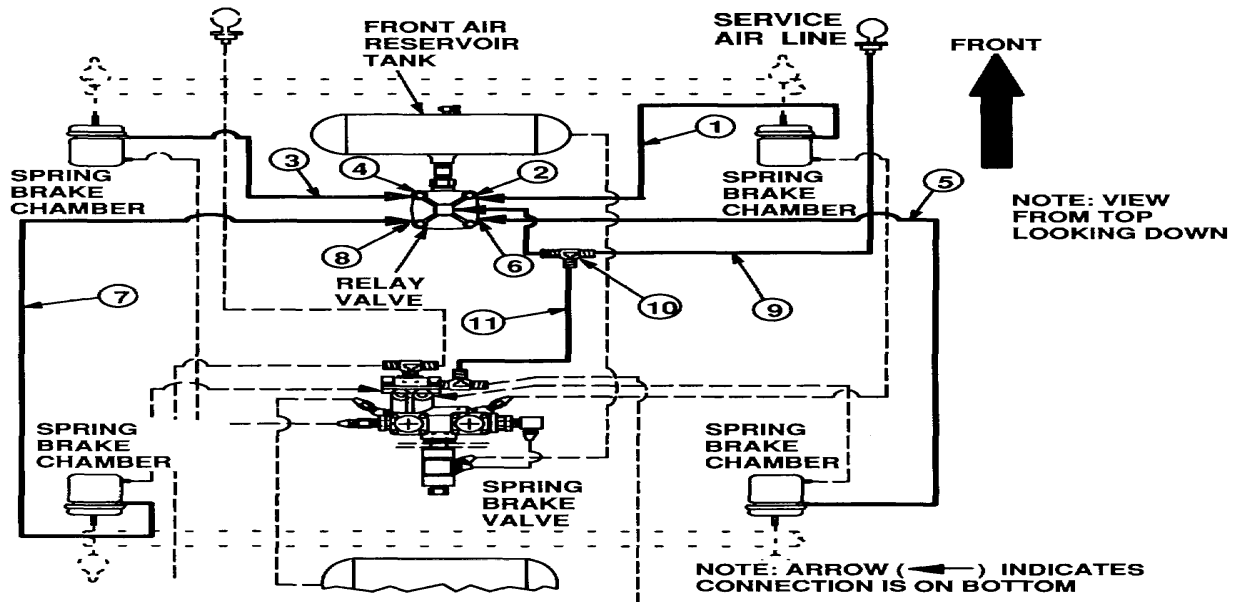

Figure 8.
(3) Install pipe nipple (1) and bushing (2) in front port of valve (6). Install elbow (4) and tee (5) in the top port of valve (6) so that one opening of tee faces right side of trailer and other tee opening faces trailer rear. Install two straight
(4) Install two straight adapters (3) in the bottom delivery ports of valve (6) closest to front port pipe nipple. Install two new straight adapters (7), PIN 112553, in bottom delivery ports.
(5) Install new emergency relay valve (6), in center port of front air tank reservoir with elbow and tee on top.
- j. Connect Air Chamber Service Hoses and Air Lines. Refer to Figure 8.